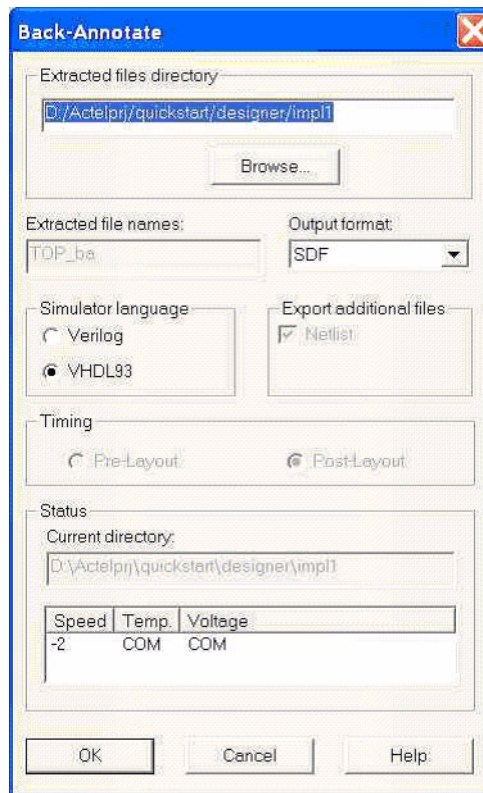

Figure 7-36. Back-Annotate Dialog Box
14. From Designer, click **Back-Annotate** in the Design Flow window. This opens the Back-Annotate dialog box, shown in Figure 7-36.